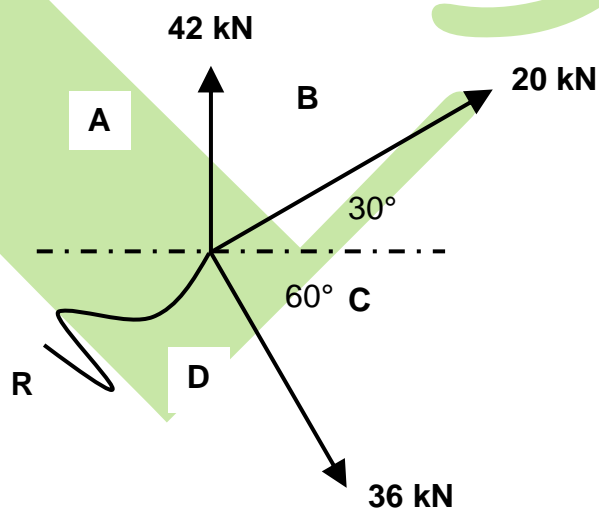

FIGURE 4
- 4.2 Draw the space diagram in FIGURE 4, DIAGRAM SHEET 2 (attached), in the ANSWER BOOK. Complete a vector diagram to scale 1 mm = 2 kN and determine the magnitude and direction of the resultant force F.